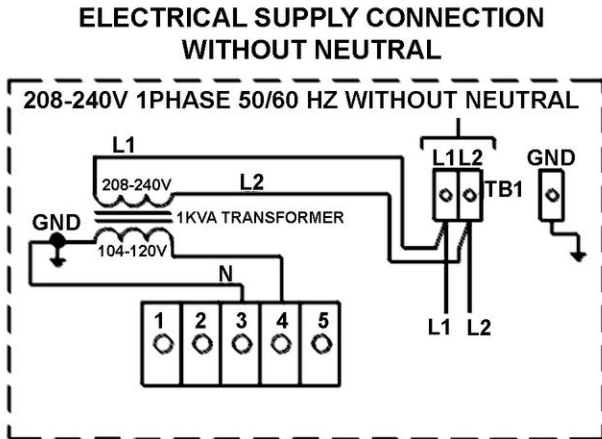

Fig. 21
**NOTE:** If 208-240 volt electrical supply does not have a neutral, a step-down transformer can be installed (see Fig. 21). Step down transformer must be installed into a leak tight housing supplied by customer.